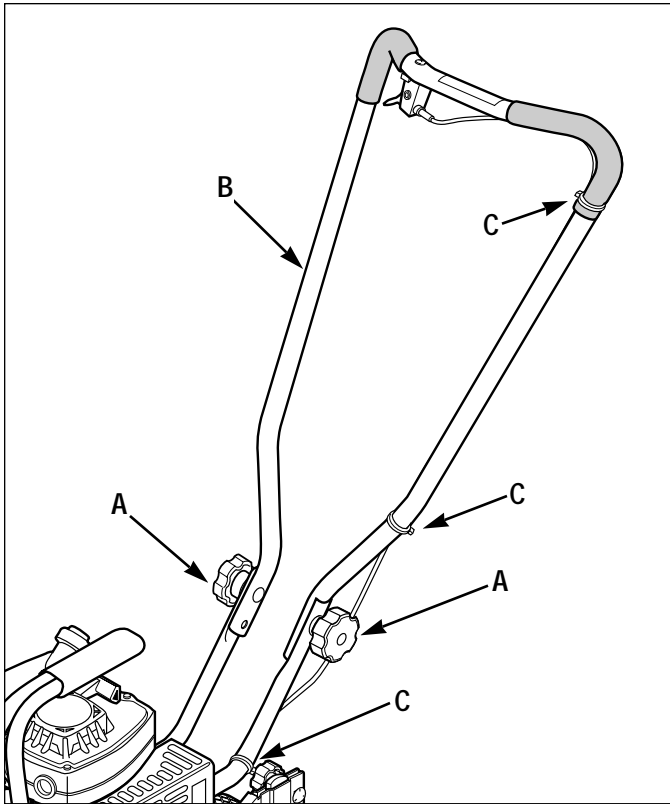

Figure 1: Loosen handlebar knobs and unfold handlebars. Slide plastic ties to the locations shown.
- Loosen the two handlebar knobs (A, Figure 1) and unfold the handlebars into the operating position. Do not use force — if there is binding, continue to loosen the knobs.
- Check the locations of the three plastic ties (C, Figure 1). The ties must be positioned as shown.